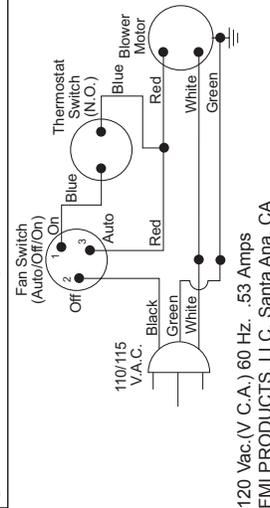

Figure 7 - Wiring Diagram Decal
4. A licensed electrician must follow the wiring diagram to connect incoming electrical supply to fan kit wiring harness (see Figure 7).